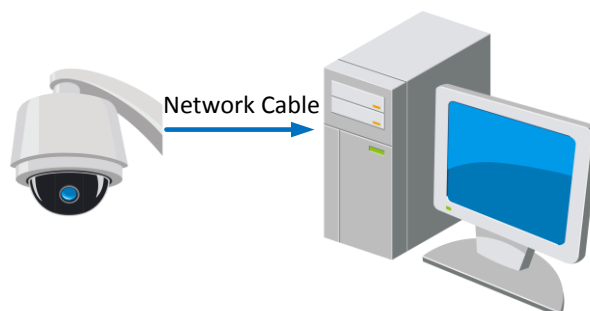

Figure 1-1 Connecting Directly
- To test the camera, you can directly connect the camera to the computer with a network cable as shown in Figure 1-1.